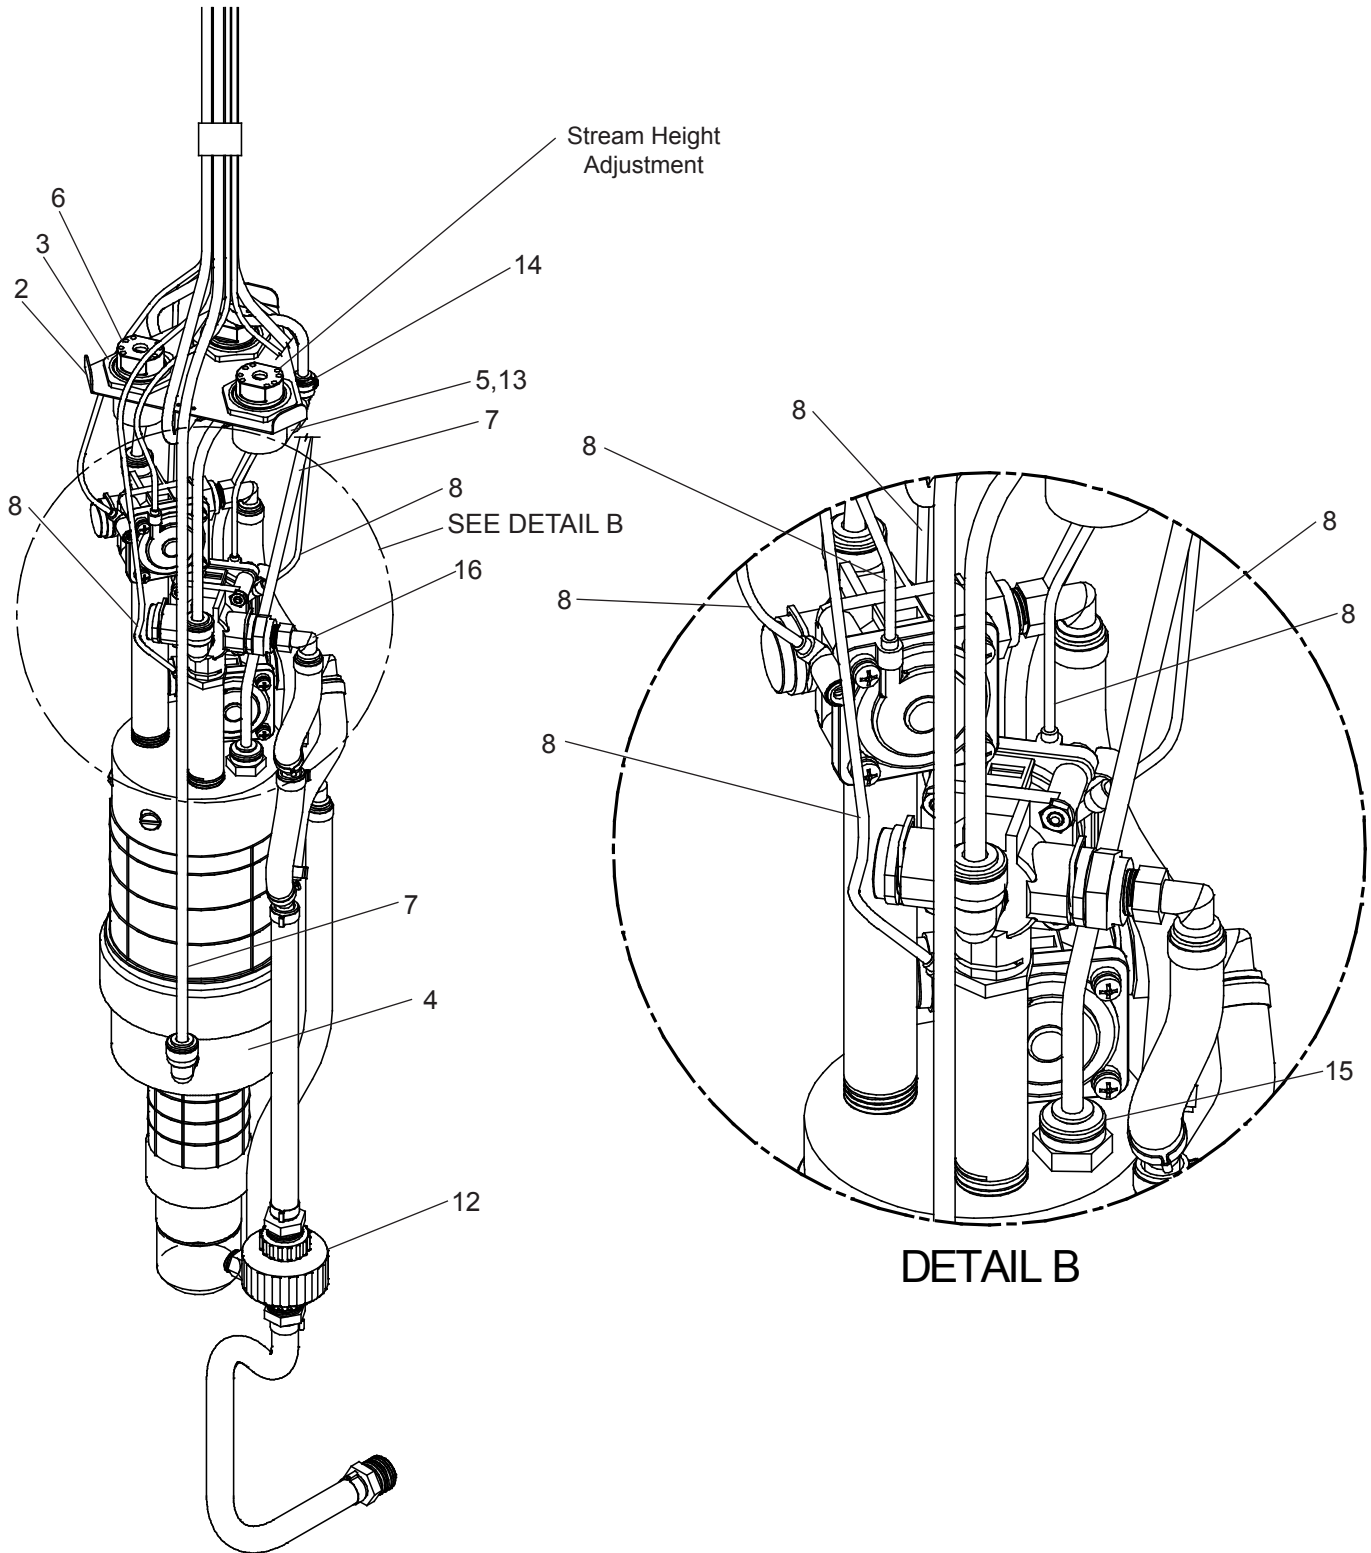

FIG. 6
- Remove the valve assembly from the PVC column by carefully pulling up on the strap and connecting tubing at the same time. Check stream height from the bubbler. Stream height is factory set at 35 PSI. If supply pressure varies greatly from this, adjust the screw on the regulator (Item 13, Fig. 6, Page 8). Clockwise adjustment will raise stream and counter-clockwise adjustment will lower stream. For best adjustment stream height should be approximately. 1-1/2" (38mm) above the bubbler guard. Replace the valve into the PVC column. Make sure the supply hose coils into the bottom of the PVC column without any kinks and double check that the valve is positioned fully at the bottom of the PVC column.